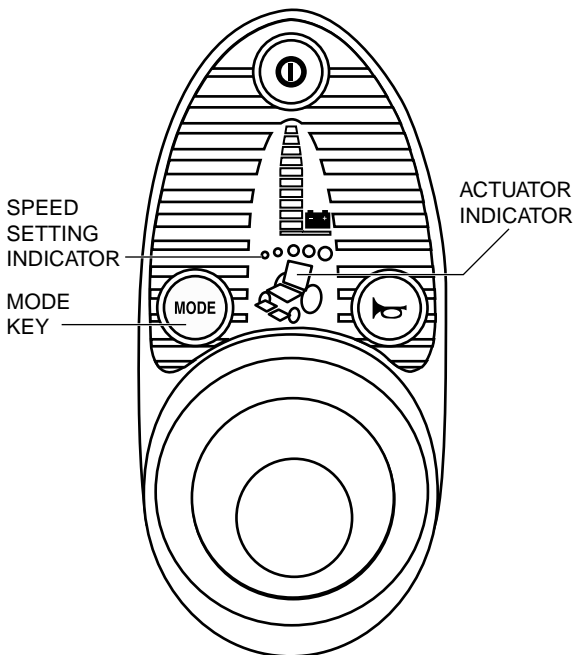

Figure 4. Remote Plus Controller
2. Press the mode key until the actuator indicator lights up. See figure 4.